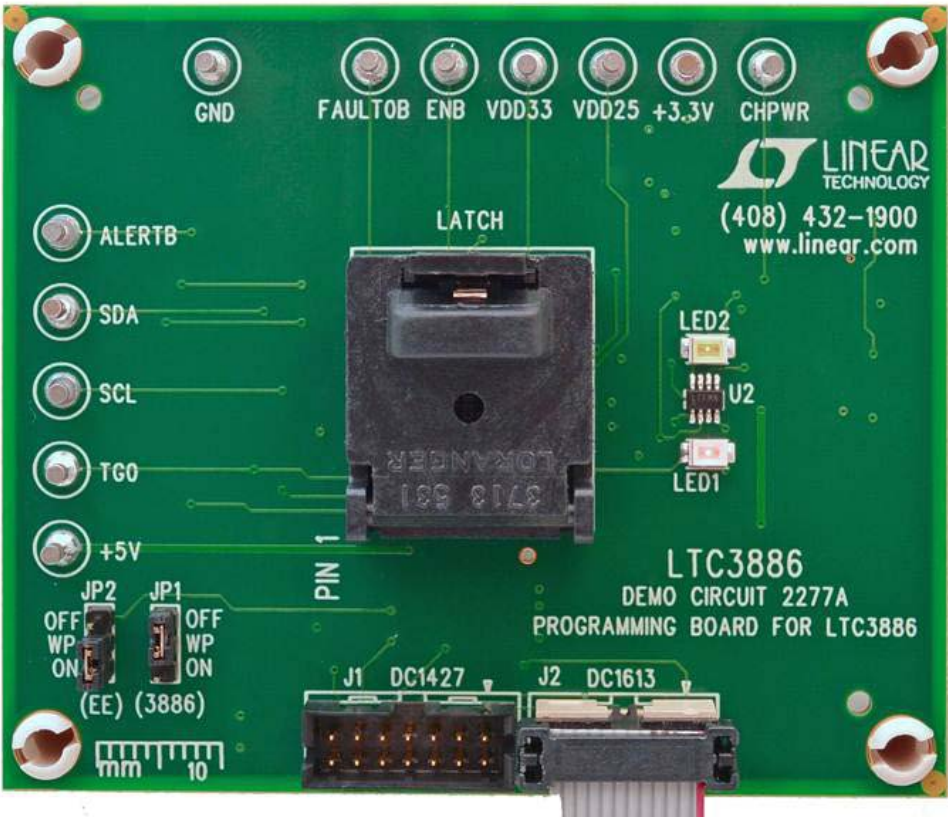

Figure 3. DC1613A Ribbon Cable Installation
5. If you have a DC1427A, plug the ribbon cable into J1. If you have a DC1613A, plug the ribbon cable into J2. See Figure 3.